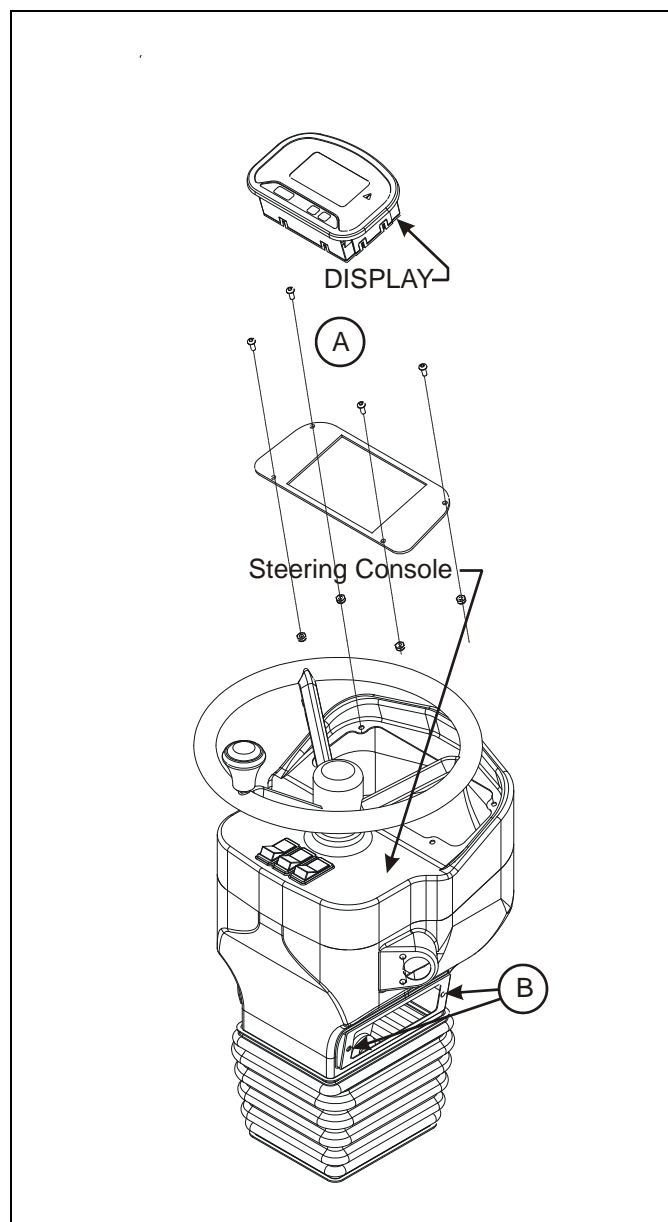

Figure 4-1 Dash and Steering Console Assembly
4. Remove the right side cover of the steering column to expose the internal components of the steering column by removing the 2 cover screws and hardware marked (B). (See Figure 4-1)
5. Remove the four large screws and hardware marked (A). (See Figure 4-1)